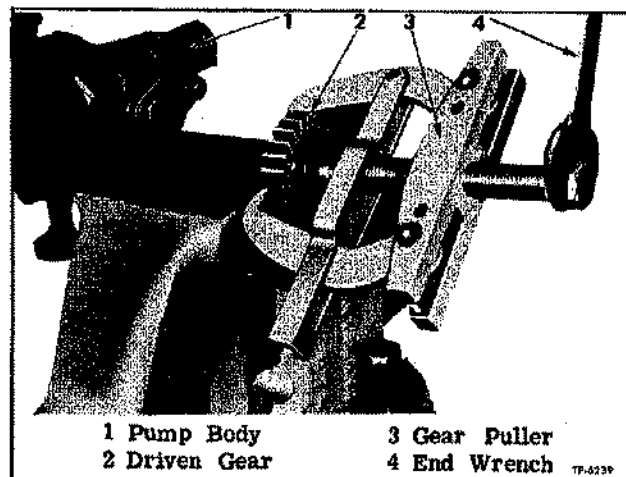

Figure 13—Removing Driven Gear from Pump Shaft
4. Support pump body and drive shaft assembly, including gear, in bench vise; then by means of a gear puller, pull gear from pump shaft, as shown in figure 13. Remove Woodruff key from shaft, and withdraw shaft and gear assembly from pump body.